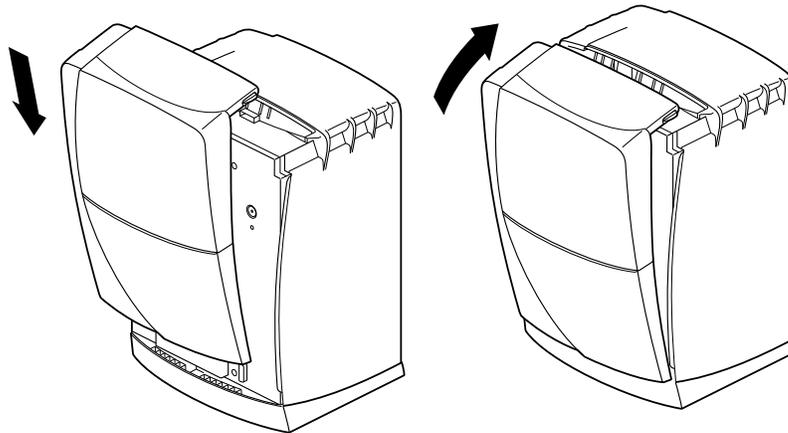

Figure 7-36 Reinstalling the Bezel
1. Replace the bezel, as shown in Figure 7-36.